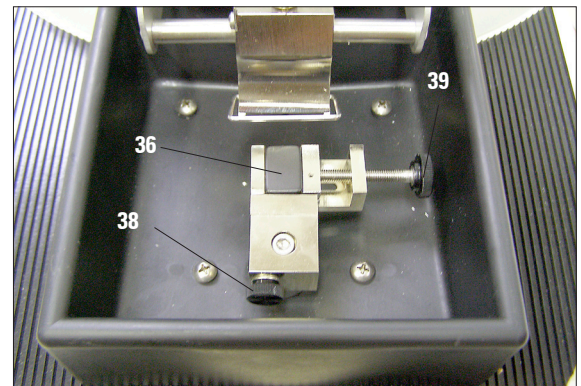

Fig. 18
- Insert the specimen block (36) into the tension clamp and clamp it into place using the knurled screw (39) (Fig. 18).